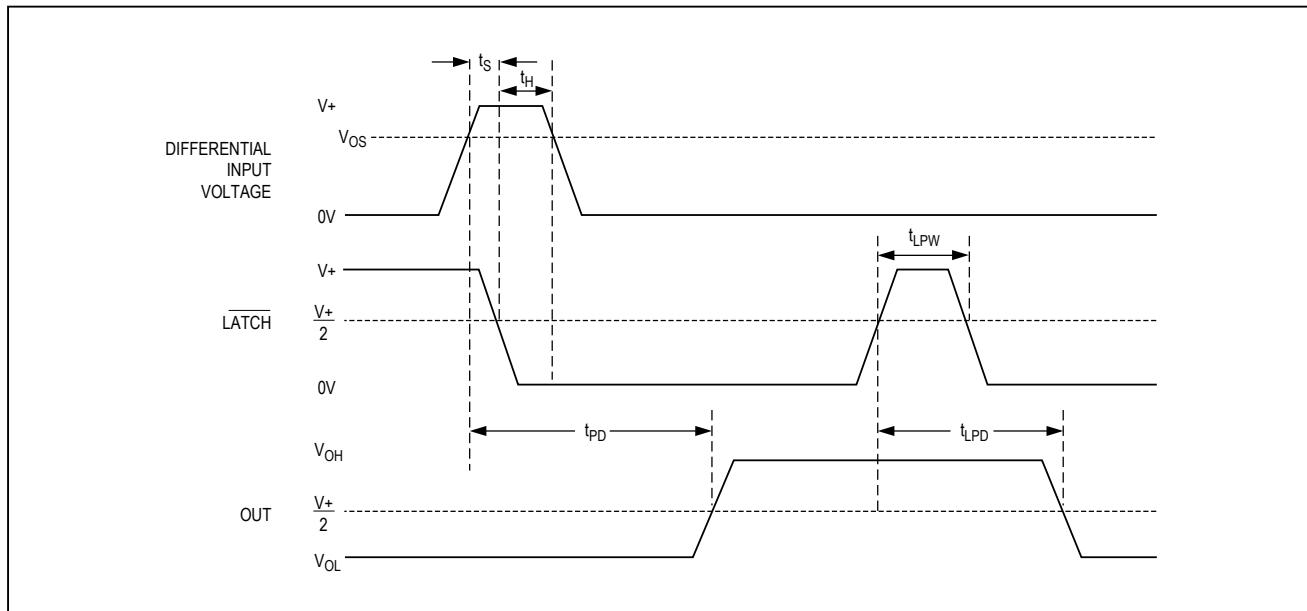

Figure 2. MAX941 Timing Diagram with Latch Operator
**Note 8:** Parameter is guaranteed by design and specified with VOD = 5mV and CLOAD = 15pF in parallel with 400μA of sink or source current. VOS is added to the overdrive voltage for low values of overdrive (see Figure 2).
**Note 12:** Applies to the MAX941 only. Comparator is active with LATCH pin driven high and is latched with LATCH pin driven low (see Figure 2).
The MAX941 includes an internal latch that allows storage of comparison results. The LATCH pin has a high input impedance. If LATCH is high, the latch is transparent (i.e., the comparator operates as though the latch is not present). The comparator's output state is stored when LATCH is pulled low. All timing constraints must be met when using the latch function (Figure 2).